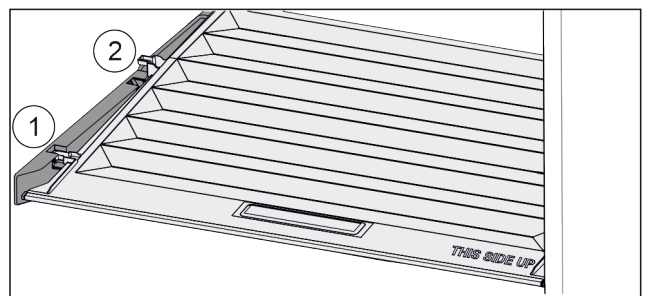

Fig. 31
- ▶ Pull the lid up at the front to the opening in the retaining parts Fig. 31 (1).
- ▶ Lift from the back and pull it up and out Fig. 31 (2).